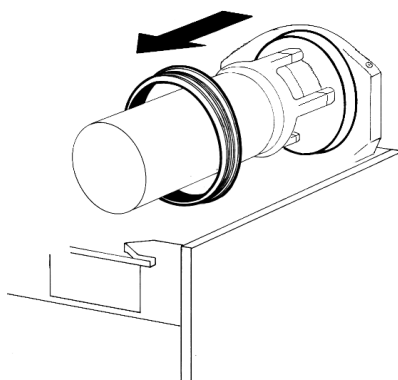

figure 12
- 4** Remove the bowl gasket from its seat (see figure 12).